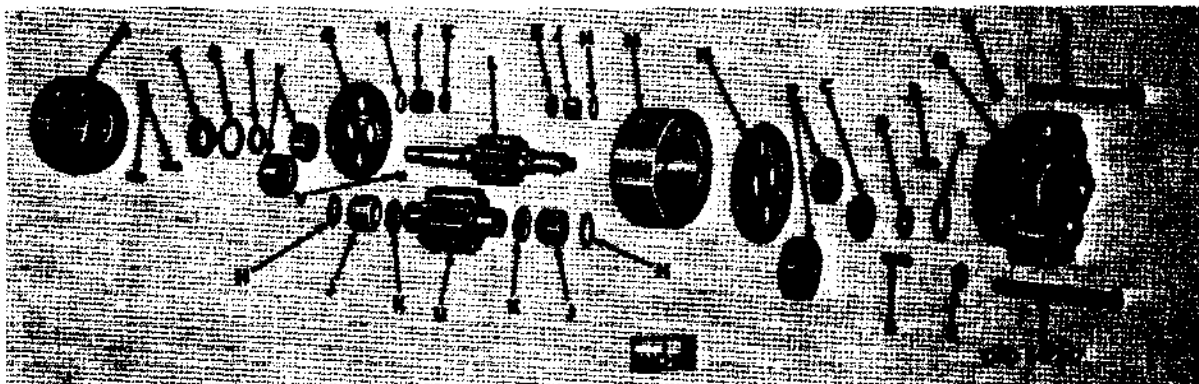

Figure 558. Hydraulic motor assembly - exploded view
b. Disassembly (Fig. 558).
- (1) Remove the eight bolts (S and T) and flat washers (R) holding front cover (A) and rear cover (Q) to motor body (M). The covers (A and Q) are now held on by dowel pins (B).